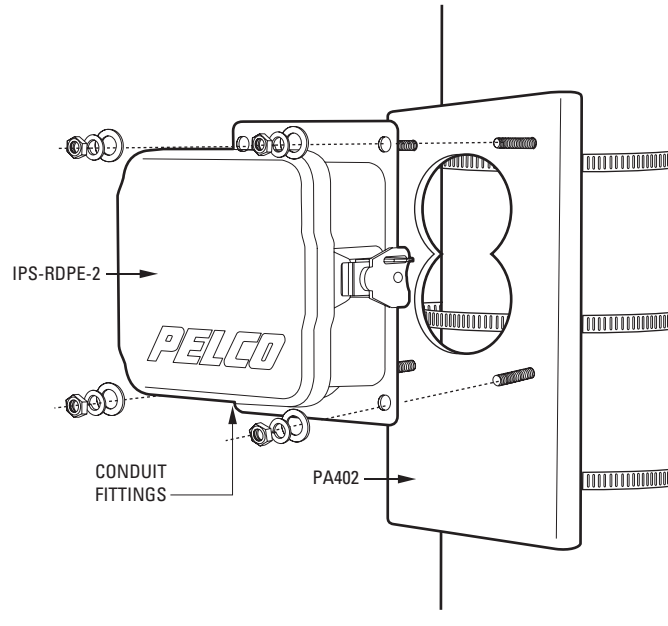

Figure 2. Mounting to Pole with PA402
3. Attach the IPS-RDPE-2 to the PA402 and secure with the hardware supplied with the mount adapter. Refer to Figure 2.